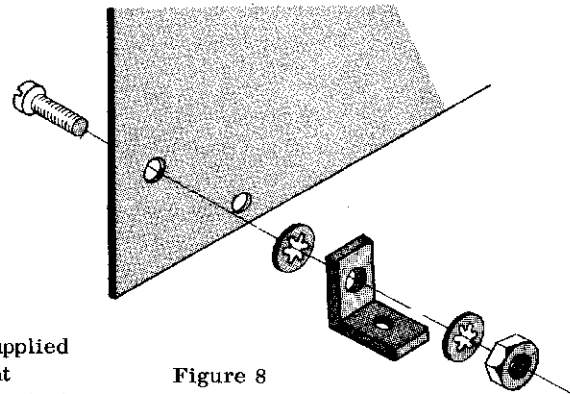

Figure 8
- () Fasten the two "L" brackets to the front panel using one 4-40 X 1/4" machine screw, two lock washers and a 4-40 nut as shown in figure 8. Note that the unthreaded hole on the "L" bracket is used in this operation. **DO NOT COMPLETELY TIGHTEN THESE SCREWS AT THIS TIME.**